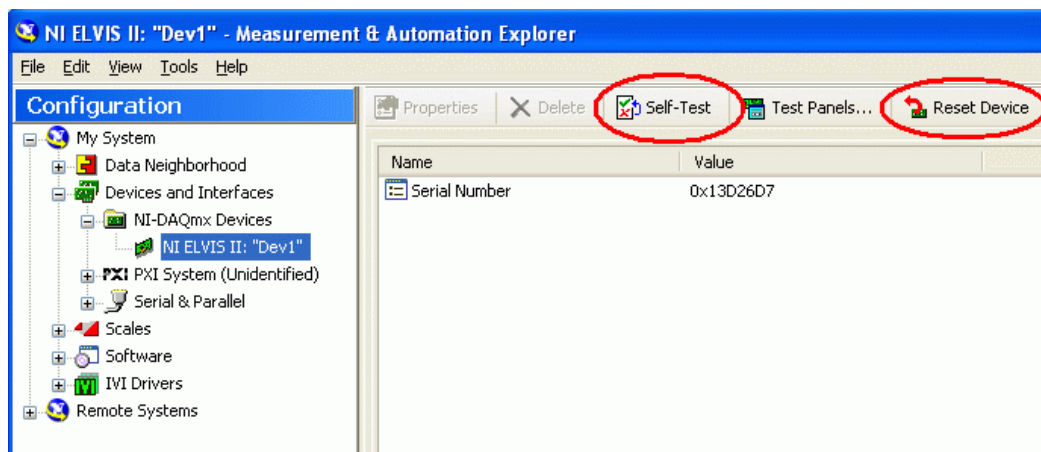

Figure 49: Resetting and performing the self-test on the ELVIS II.
3. As illustrated in Figure 49, expand the *Devices and Interfaces* and *NI-DAQmx Devices* items and select the *NI ELVIS II* device.
4. As shown in Figure 49, click on the *Reset Device* button.